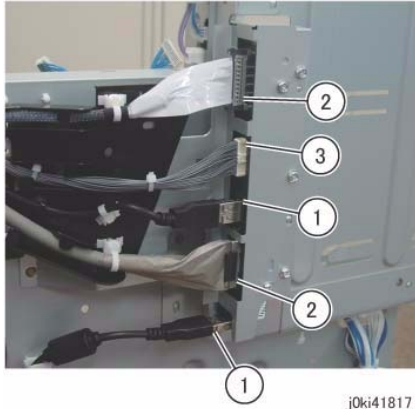

Figure 2 Disconnect the BP PWB connectors
- Disconnect the connector of the BP PWB. (Figure 2)